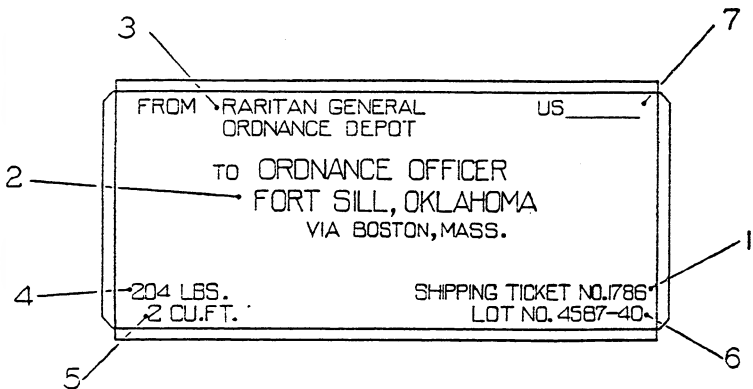

FIG. 20.—Address side for all packing boxes
(2) The system of marking packing boxes for Mk. VII chemical shell was changed when the system of marking the chemical shell was changed. The old marking system is shown in Figures 20 and 21 and the new marking system is shown in Figures 20 and 22.
(3) The marking which appears on the packing box for the Mk. I shrapnel is shown in Figures 20 and 23.
**24. Packing boxes for fuzes.**—*a. Type.*—The point detonating fuzes, Mk. III and Mk. IV—star, are never assembled in projectiles for shipment. They are shipped in separate metal-lined wooden boxes. The fuzes are packed in trays which prevent excessive movement in shipment. There are 50 Mk. III or 100 Mk. IV—star fuzes in a box. The exterior dimensions of the box are exactly the same for both fuzes, the difference being in the tray. The cover is hinged and is held in place by two thumb nuts. A wire is tacked to the lid and to the side of the box and sealed, thus preventing tampering with the contents of the box without destroying the seal. The marking on this packing box is shown in Figures 20 and 24.
NOTE.—Both ends of box are marked alike. For marking on side not shown (address side) see Figure 20.